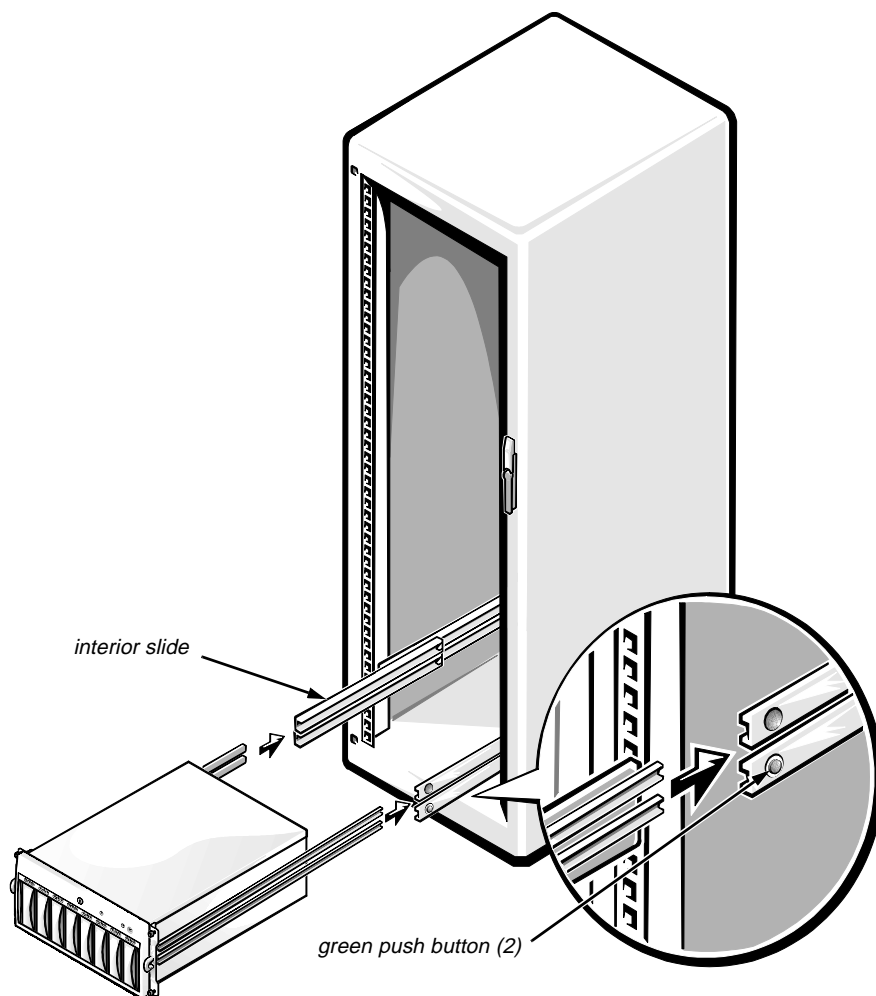

Figure 2-13. Installing the Storage System in the Rack
NOTES: Be sure that the green plastic stops in the ends of the channels on the slide are at the back of the rack and the green push button is on the bottom half of the interior slide. (Figure 2-13 shows the location of the green push button.)
4. **Lift the storage system into position, and insert the storage system's rails into the channels of the interior slides (see Figure 2-13).**
NOTE: As you push the storage system into the interior slides, the slide assemblies lock in the extended position. Press the green push button near the end of each interior slide to release the locks (see Figure 2-13), and then slide the storage system completely into the rack